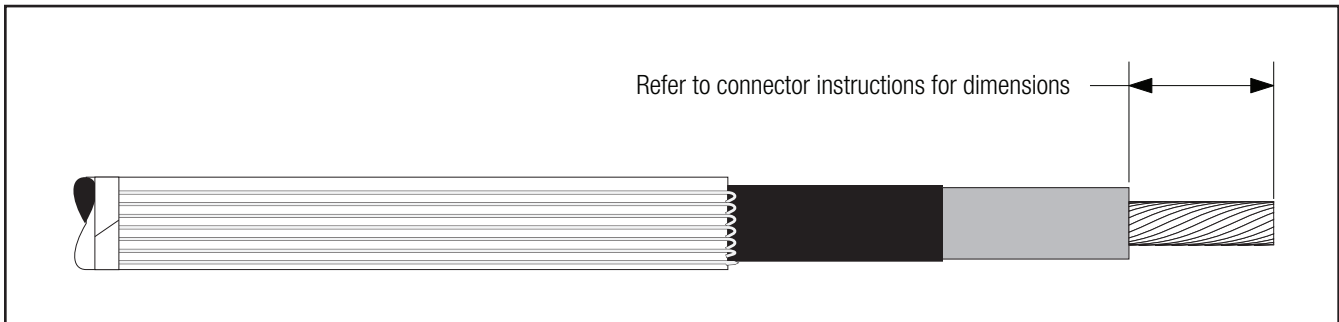

Figure 4
- 3.1 If using a 3M™ Shearbolt Connector QCI 2-250, refer to the instructions included with the connector for insulation cut-back dimension. Insulation removal length shall not exceed 2 1/2" (64 mm) from conductor end (Figure 4).